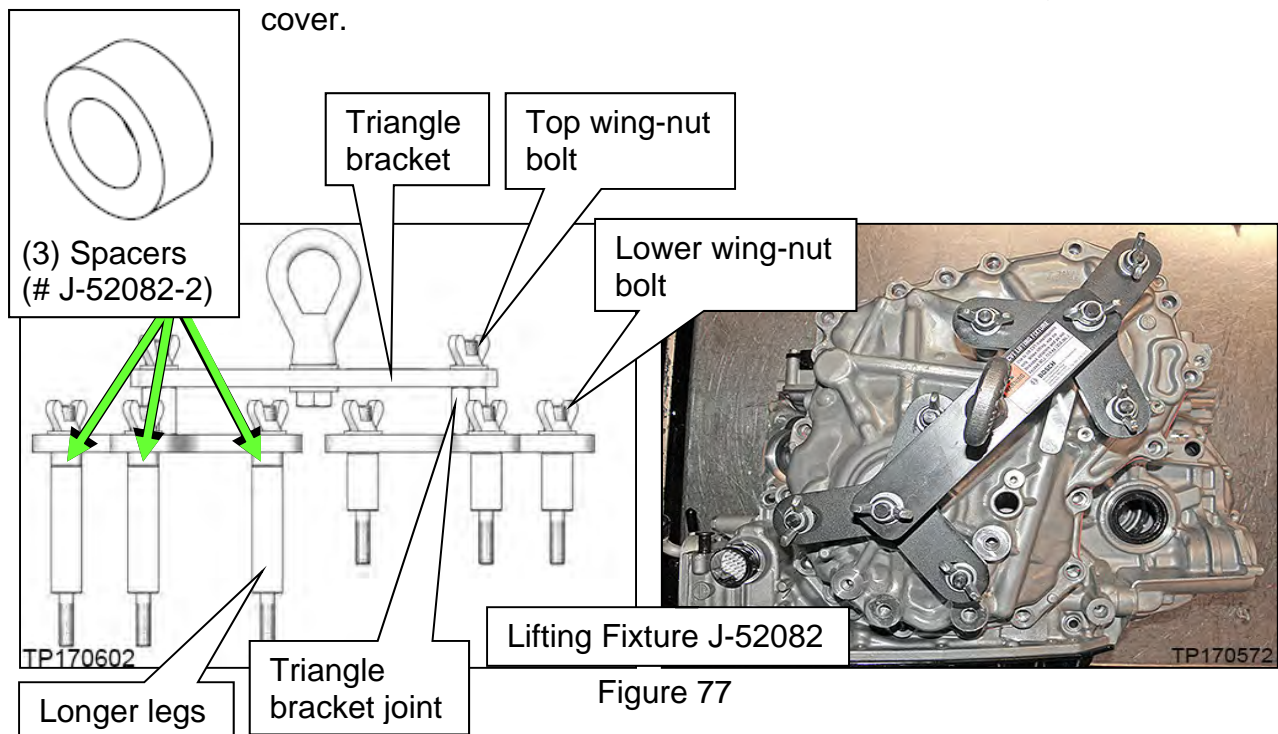

Figure 77
55. Remove the six (6) pulley bracket bolts.
56. Attach universal Lifting Fixture J-52082 with spacers J-52082-2 to the side cover as shown in Figure 77.
- b. Confirm that three (3) spacers (# J-52082-2) are present between the longer legs and triangle bracket as shown in Figure 77.